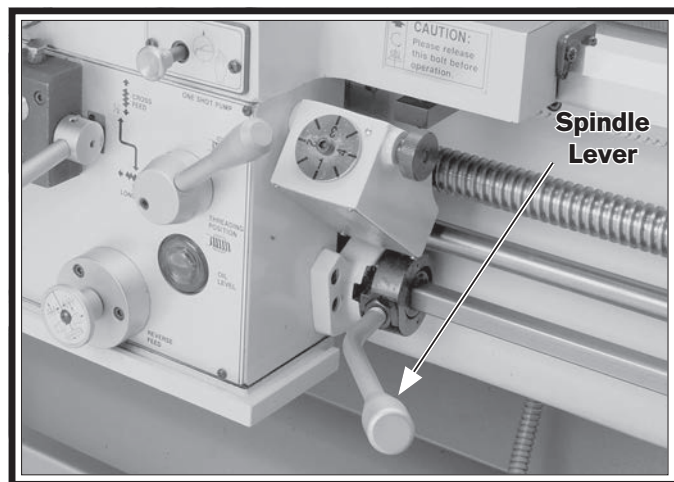

Figure 27. Spindle lever in down (forward) position.
11. Start the spindle by pulling the spindle lever out and moving it down (see **Figure 27**).